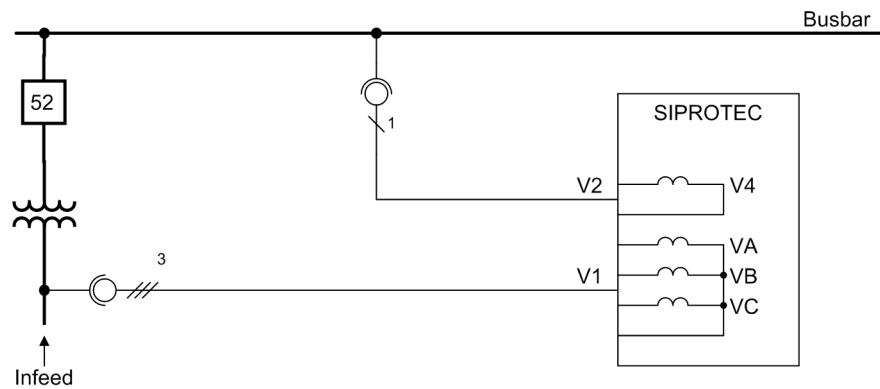
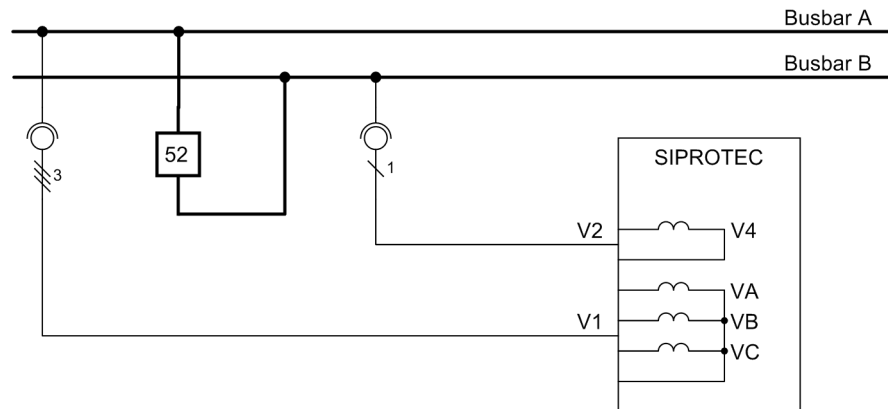

Figure 2-98 Infeed
Figure 2-99 Bus coupler
- Typical applications are, for example, the synchronism check of a feeder and a busbar (see Figure 2-98) or the synchronism check of two busbars via bus coupler (see Figure 2-99).
If a transformer is connected between the two voltage transformers (Figure 2-98), its vector group can be adapted in the 7SJ64 relay so that external adaptors are not required.